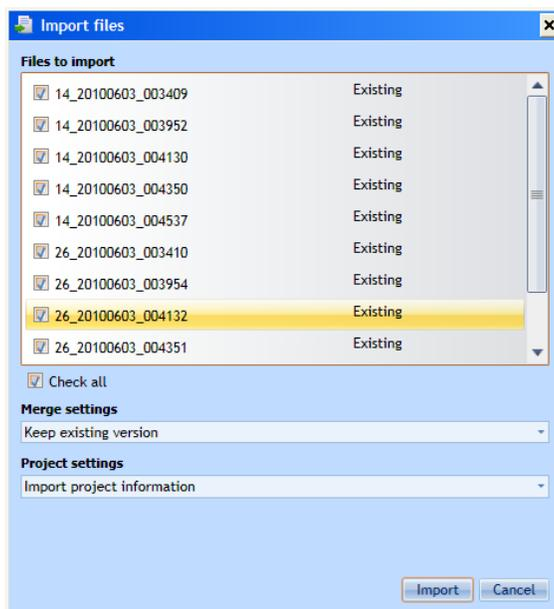

Figure 30 – Import Files Dialog
- The software shows a dialog that allows you to select which of the files are imported, how they are merged if the file already exists, and whether or not project information is imported with the data files (Figure 30).